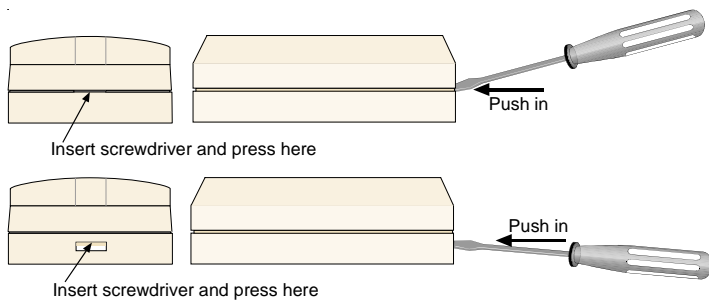

Figure 3 - Opening the Point Transmitter
- Depending on which case your Transmitter comes with (refer to Figure 3 on page 2), open the Transmitter Cover by inserting a small flat-blade screwdriver into the slot at the end of the Transmitter. Press in with the screwdriver until the Latch opens.